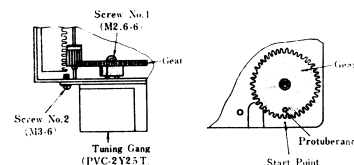

Fig. 7
3. Remove tuning gear mounting screw, No. 1, as illustrated in Fig. 7.
5. Remove tuning gang bracket mounting screw, No. 2, as illustrated in Fig. 7.